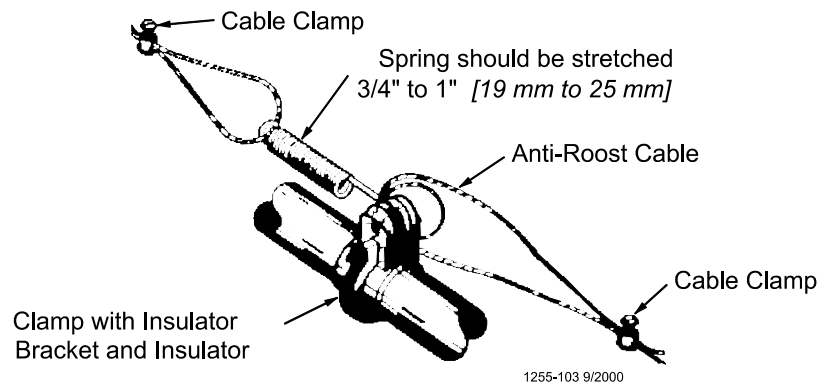

Figure 47. Anti-Roost Cable at the Hopper
4. Attach a spring in the center groove at the second anti-roost bracket and cut the cable at this point, see figure 47.
5. Thread the ends of the cable through the end of the spring. Pull the cable tight so there is 3/4" to 1" (20 to 25 mm) of stretch in the spring. Clamp the cable to form a loop and cut off any excess, see figure 47.
6. Attach the cable to the insulator. For best results, make a double loop around the anti-roost insulator in the center groove of the insulator and fasten with a 1/16" cable clamp as shown in Figure 47.